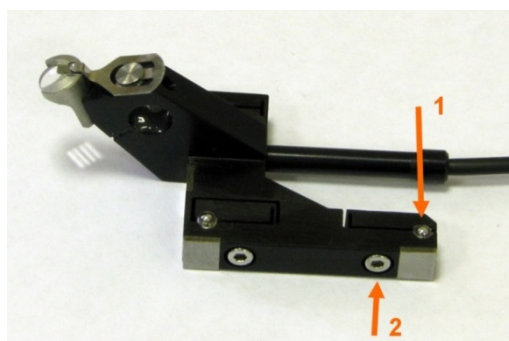

Figure 8.4.1 Cantilever holder. Rear support screw (1) and fixing screw (2).
- Mark the initial position of the rear support screw using a mark pen (position 1 shown in Fig. 8.4.1);
- Loosen the fixing screw (position 2 shown in Fig. 8.4.1), so you can turn the rear support screw with a little resistance;